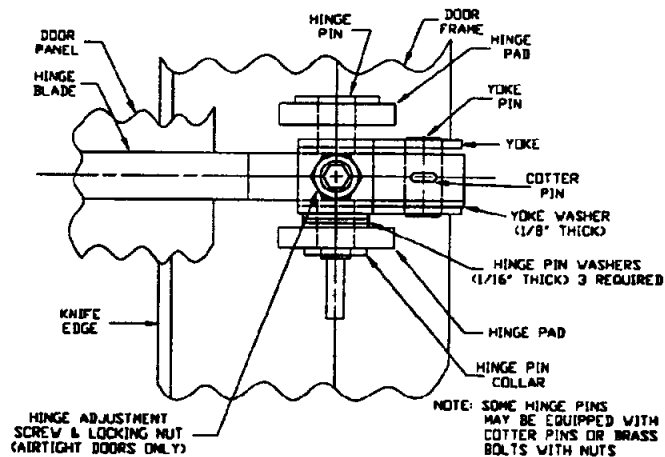

Figure 4
- (18) Corroded, missing or illegible label plates identifying closure number and damage control classification.
- (19) Area around label plates for corrosion, dust trails, bulging plates or white powdery residue (WSA coated doors only).
- (20) Loose or flaking paint, dust, and corrosion in door panel, bulkhead frame, dog sleeves, connecting rod linkages, and hinge assemblies. Where dog wedges are mechanically fastened, assess area in door panel around wedges for rust. On weather deck doors with WSA coating, assess door panel.
- (21) Proper hinge pin material. Material should be brass. If Corrosion Resistant Steel (CRES) hinge pins are found, replace with brass. The use of CRES hinge pins causes wear on hinge pads and yokes.
- (22) Proper installation/operation of safety chains or guard ropes. Assess for missing shackles, snap hooks, bolts, or toggle pins.
- (23) Loose or worn dog wedges. Mechanically fastened wedges should be tight with no movement allowed. Wedges are worn when it has worn to less than half its original thickness of 5/16" on the center flat portion of the wedge, or if the leading edge of the taper is 1/16" or less.
- (24) Proper material for wedges. Material should be aluminum-bronze. If CRES wedges are found, they should be replaced with aluminum-bronze. The use of CRES wedges with CRES dogs causes galling on the contact surfaces and rapidly wears both the dog and the wedge.
- (25) Cracked glass in fixed light.
- (26) Proper operation of dead light cover over fixed light.
- (27) Proper material for hardware on weather deck doors. Dogs, dog spindle nuts, and operating handles should be CRES (non-magnetic). Verify with magnet.
- (28) Worn or missing hinge pins, hinge pin collars/nuts, hinge washers, yoke pins, yoke washers, and cotter pins. (Refer to figure 4.)
- (29) With the door open, lift door panel toward hinges; excessive play indicates a worn hinge pin or yoke pin.